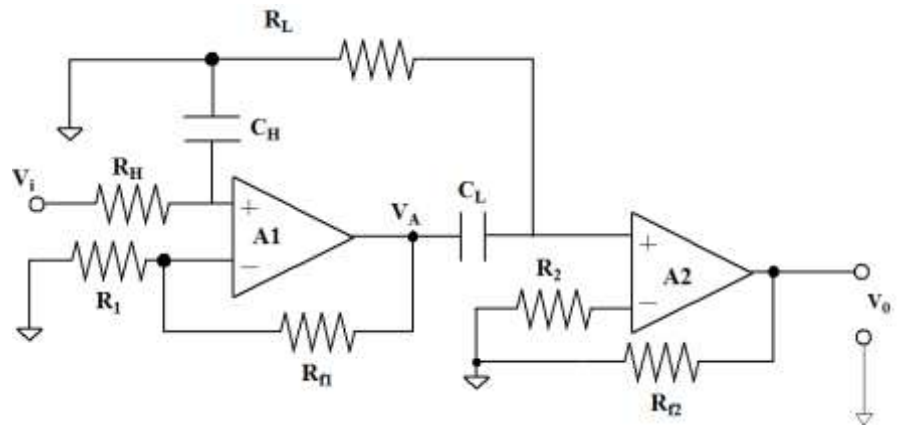

Fig. Q 3A
- 3A. Derive the mathematical model of a band pass active filter depicted in **Fig. Q 3A**. Also, calculate its lower and upper cut off frequencies along with the voltage amplification factor if the values of the passive components are given below: